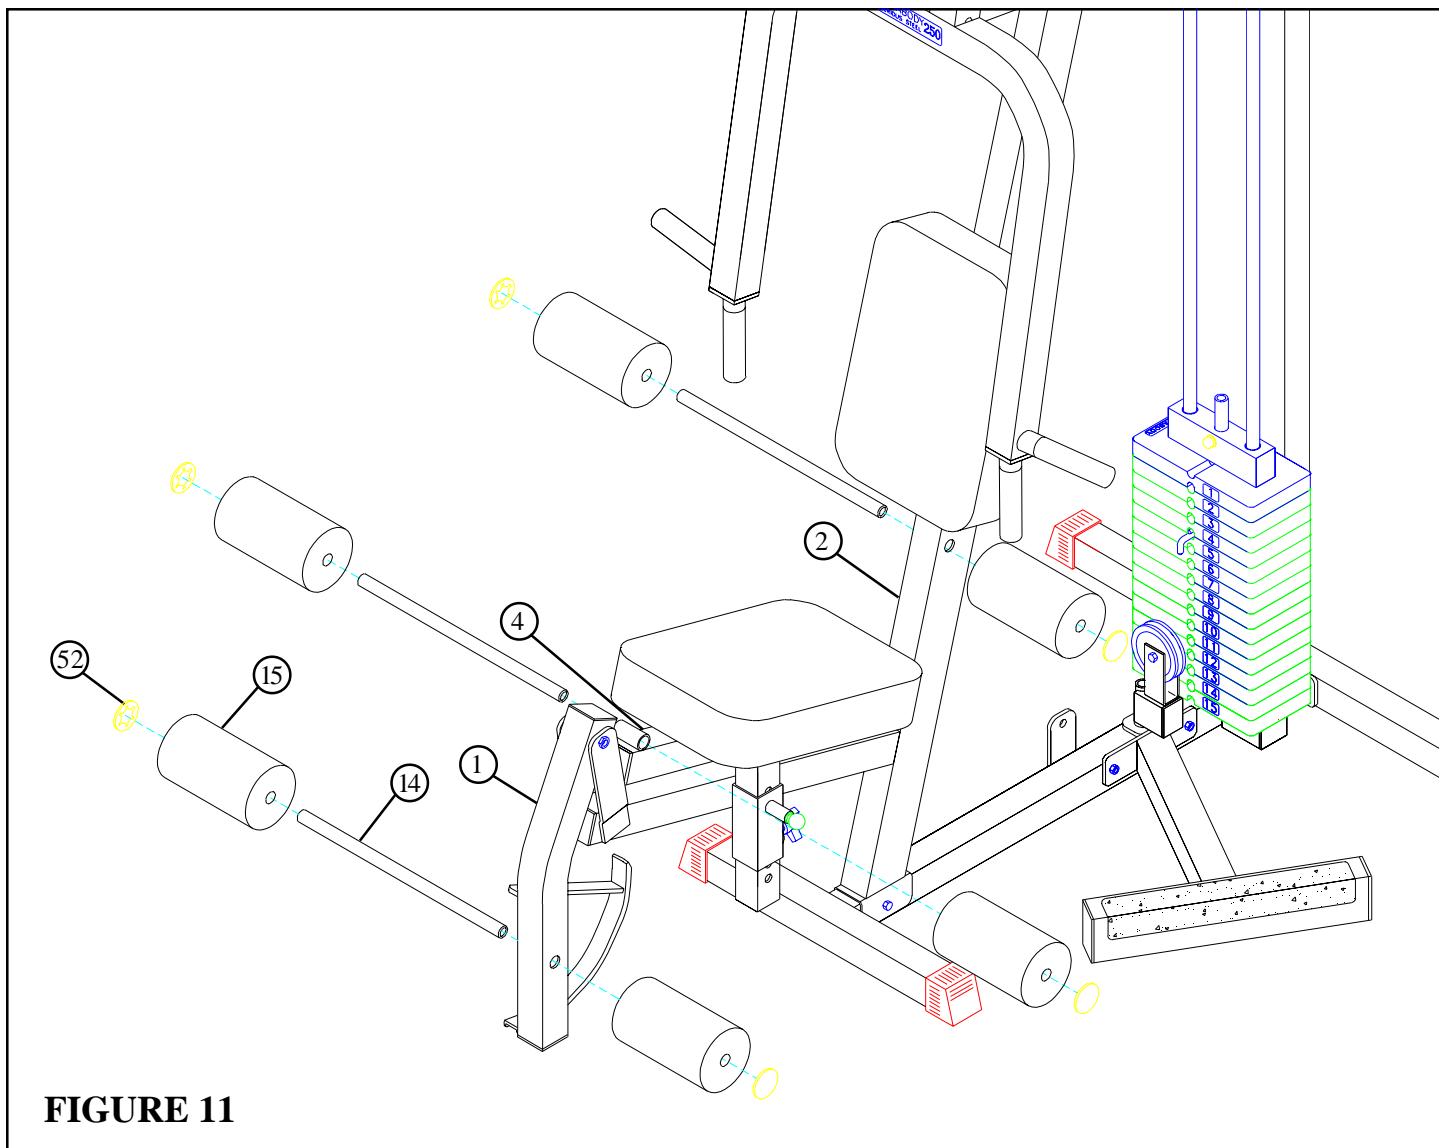

**FIGURE 10**
- Securely assemble the CALF BLOCK (10) to the BASE (8) using two 3/8 X 2-3/4" BOLTS (48), two 3/8" WASHERS (38), and two 3/8" LOCK NUTS (41) as shown in FIGURE 10. (**Note: The CALF BLOCK can be assembled to either side of the BASE.**)
- Apply the 4 X 14" NON-SKID STRIP (22) to the outside of the CALF BLOCK (10) as shown in FIGURE 10.
- Assemble the SWIVEL PULLEY BRACKET (5) to the BASE (8) using one 1/2" LOW HEIGHT LOCK NUT (42) as shown in FIGURE 10. (**Note: Tighten this connection enough to remove excess play yet allowing SWIVEL PULLEY BRACKET to rotate freely.**)
- Securely assemble one 3-1/2" PULLEY (19) to the SWIVEL PULLEY BRACKET (5) using one 3/8 X 1-3/4" BOLT (49) and one 3/8" LOCK NUT (41) as shown in FIGURE 10.